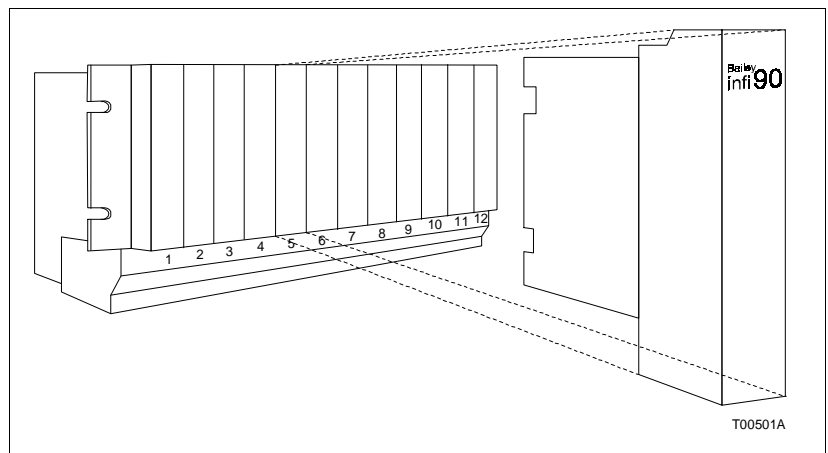

Figure 2-5. Termination Module Installation
2. Align the ICS module with the guide rails in the termination mounting unit and partially insert the module (See Figure 2-5).